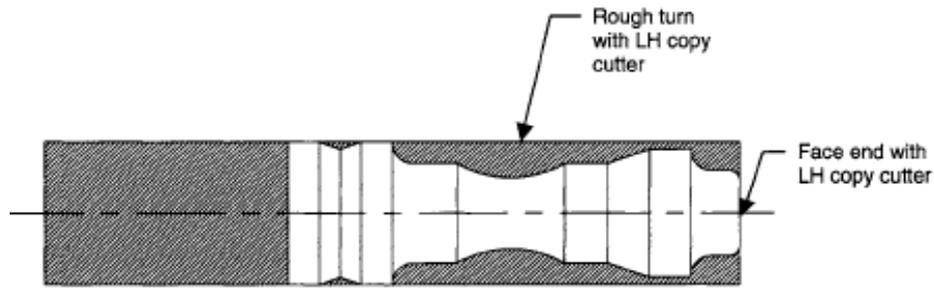

Figure 3 Facing and roughing out of example part
2. For the component shown below, determine what tooling would be required to turn it. The brass billet is represented by the rectangle that is 100mm x Dia.20mm. Therefore, the material to be removed is the shaded area in both Fig.3&4. The part is to be turned on a small bench lathe. To produce this part four distinct operations have been identified as detailed below. Identify the tooling required to produce this part.